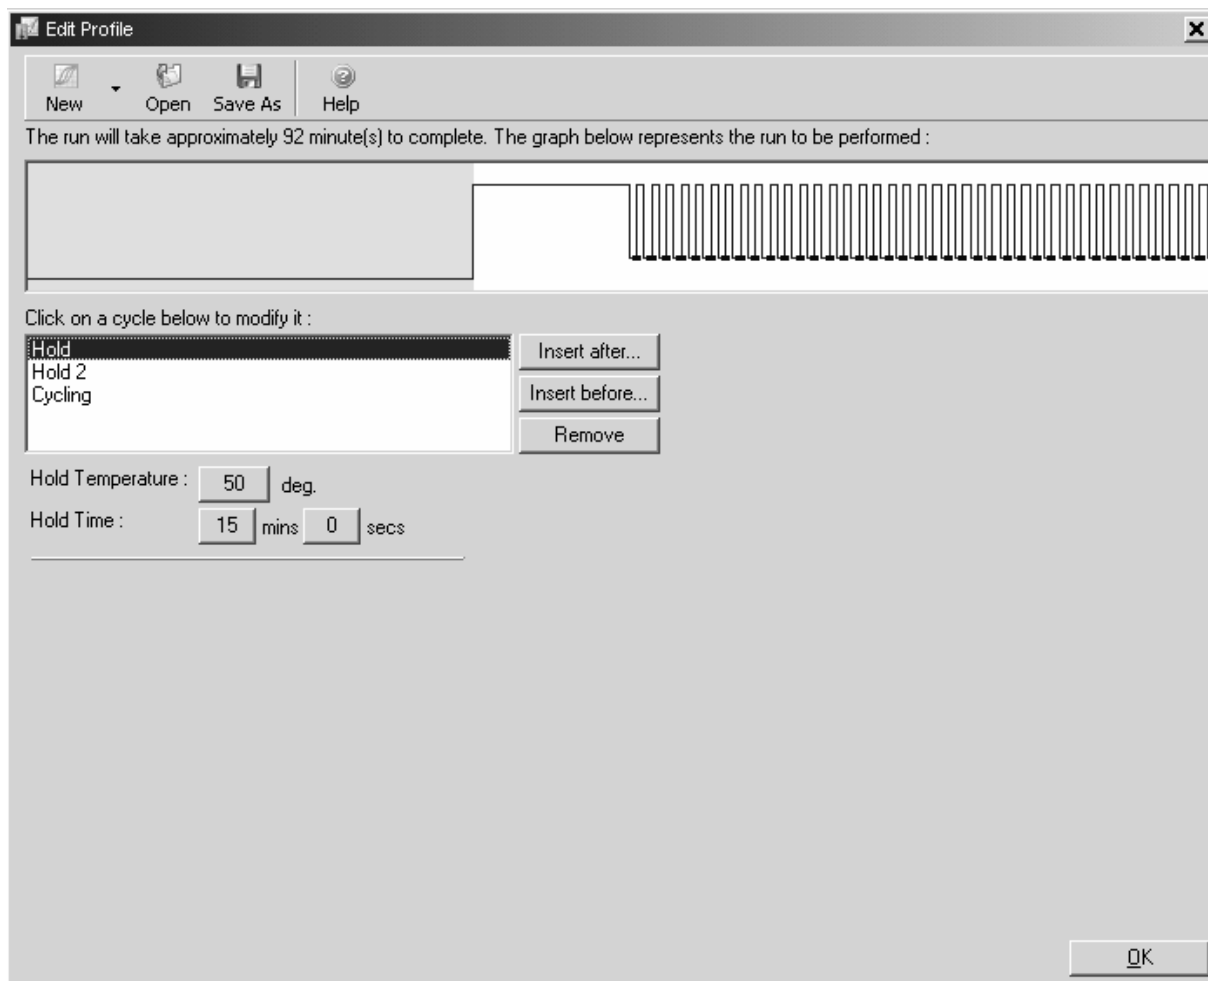

Figure 4. Reverse transcription. Before starting PCR, reverse transcription must be carried out. Reactions are incubated at 50°C for 15 min.
5. Program the Rotor-Gene cyclor according to Table 7 (below) and Figures 4–6 (pages 29–31).